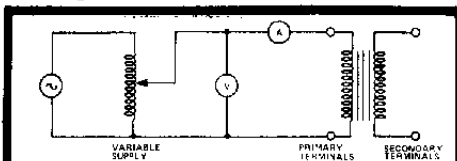

Fig. 5. Connections for the excitation or open-circuit test. The rated input voltage is applied to the primary and the excitation current is shown by A.
**Excitation Characteristic** Connect as in Fig. 5 and apply the rated input voltage to primary terminals and measure input current and voltage.